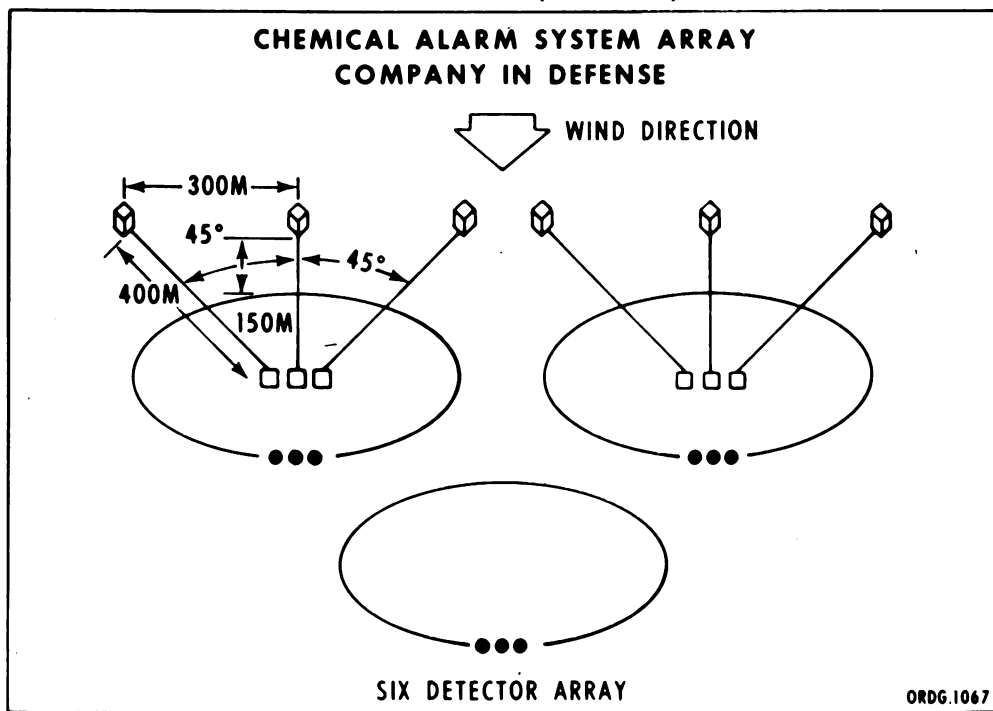

Figure 1
3. Space the available detector units approximately 300 meters apart. (Figures 1 and 2 give examples of a six- and four-detector array.)